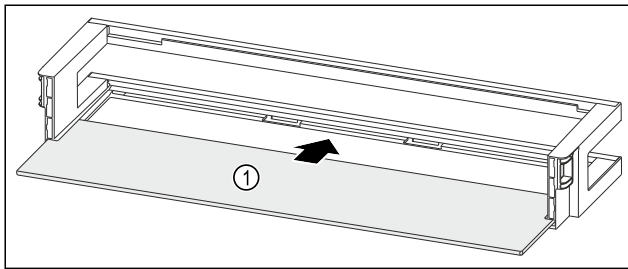

Fig. 127 Door rack with shelf
- Push the shelf Fig. 127 (1) into the side recesses.